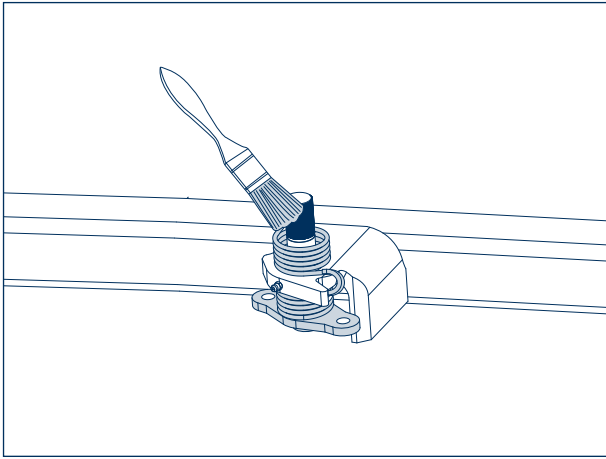

Figure 110
See fig. 110.
- [9] When the brake is applied in reverse (Fig. 110), check the position of the brake lever relative to the support bearing group (brake lever parallel to the axle body). If necessary re-adjust the brake.